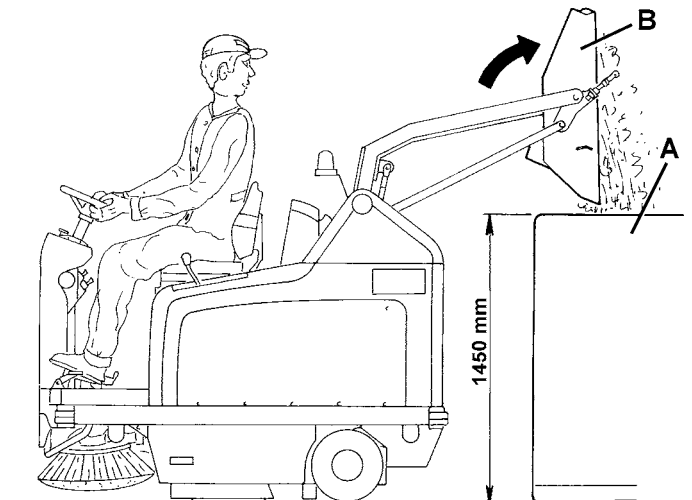

Figure 2
1. The hopper maximum dumping height is 1,450 mm (see Fig. 2).
- Turn off the vacuum system with the lever (67).
- Press the filter shaker switch (56).